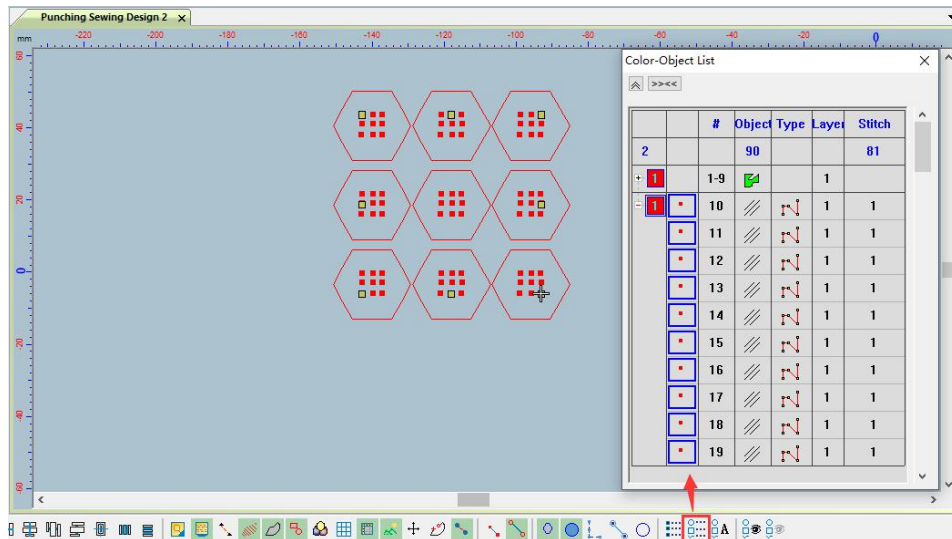

图 1 Picture1
Step 9: Open the color object list and select the hole point as shown in Figure 1, and select the modified color in the color toolbar as shown in Figure 2.